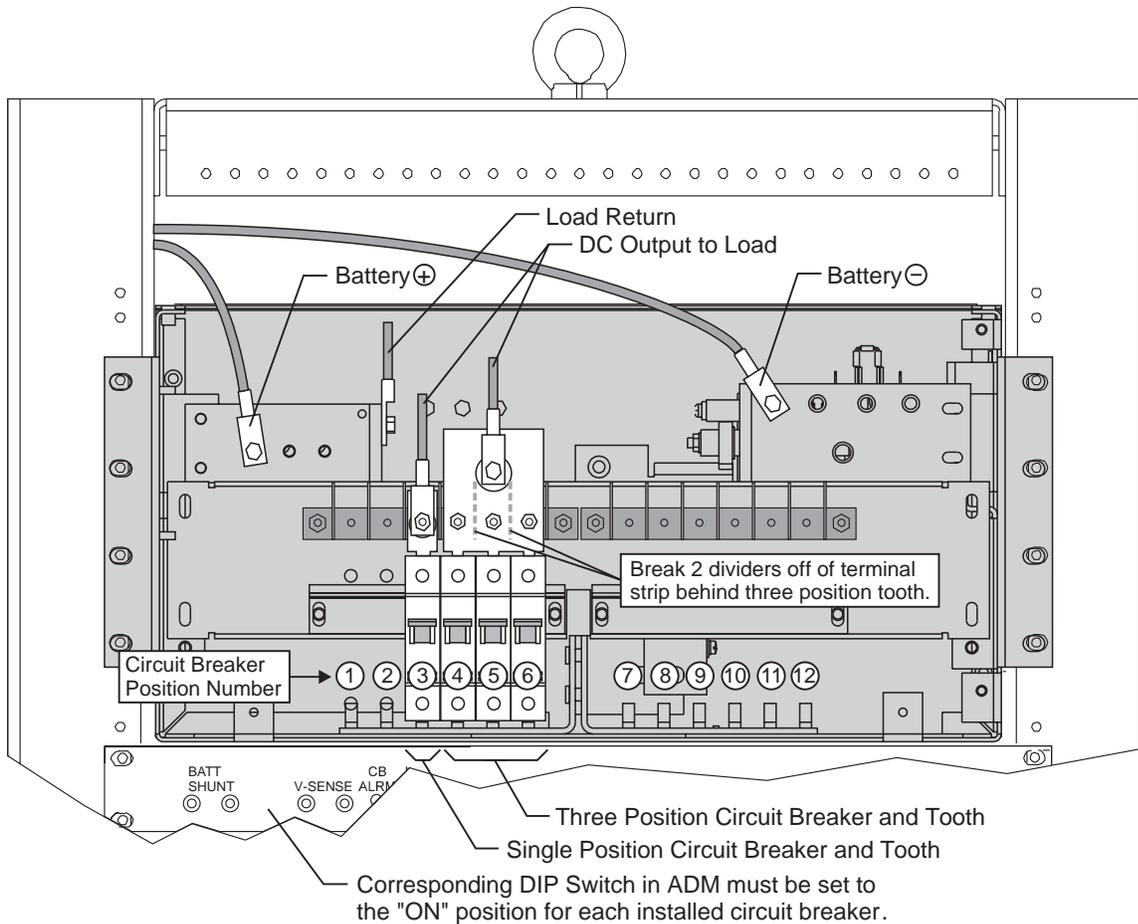
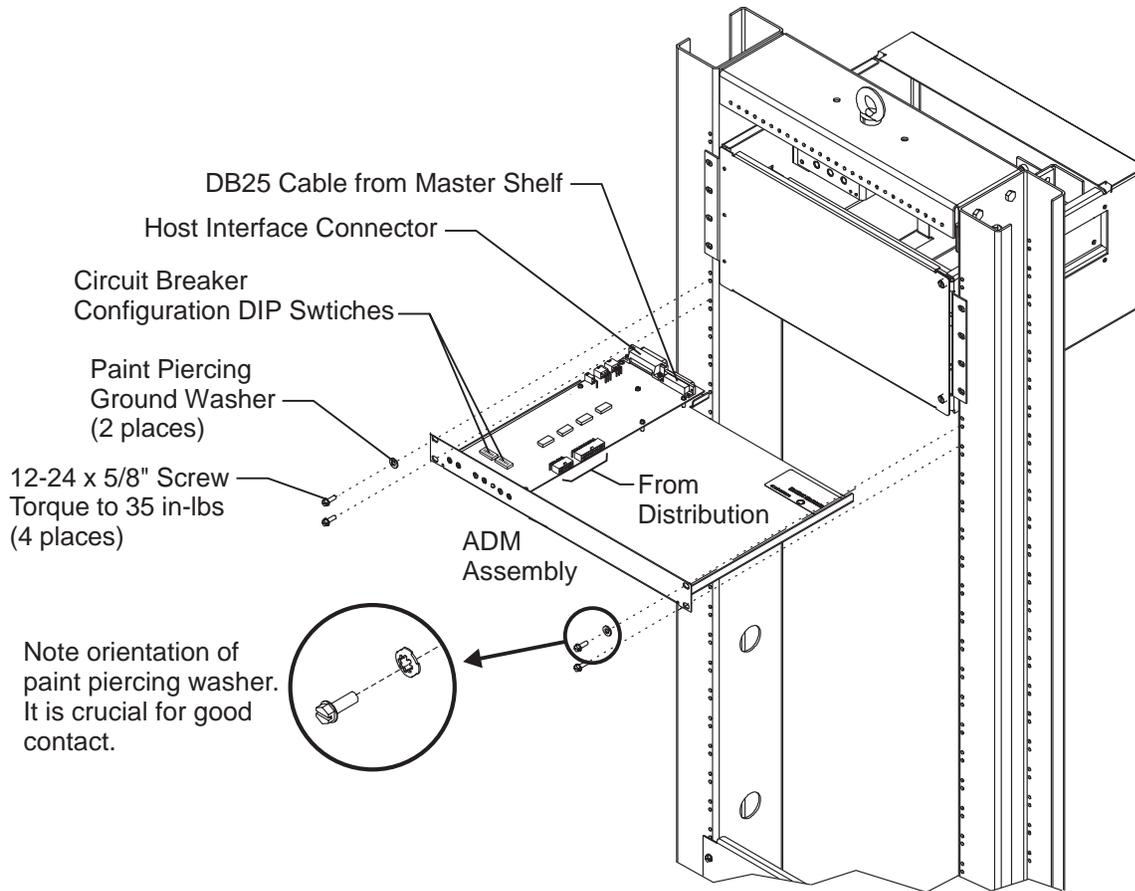

Figure 5-5: Front view of distribution assembly
Figure 5-15: Circuit board configuration DIP switches
9. Connect the lugs of the battery connection cable assembly (848121406) to the positive and negative terminals of the distribution panel. See Figure 5-5.
Figure 5-5 shows both single and three-position circuit breaker and tooth assemblies and load connection points. Figure 5-15 shows circuit breaker configuration DIP switches on the Alarm Distribution Module. Switches 2 and 3, both six-position DIP switches, are associated with the plant circuit breakers installed
Office alarms may be accessed on the host interface connector, located on the BYS2 circuit pack in the ADM. See Figure 5-15. These alarms are provided on Form-C, or transfer type contacts, allowing the alarms to be provided as normally open or normally closed sets of isolated contacts, rated at 60Vdc and 0.5A maximum. The three connections associated with each alarm are labeled NC, NO, and C. When an alarm occurs or power is removed from the Control Unit, a closure exists between the NC and C contacts and an open exists between the NO and C
Figure 5-5 shows both single and three-position circuit breaker and tooth assemblies and load connection points. Figure 5-15 shows circuit breaker configuration DIP switches. Switches 2 and 3 on the Alarm Distribution Module, both six-position DIP switches, are associated with the plant circuit breakers installed in the distribution assembly. Both the individual switches and the circuit breaker positions are numbered 1 through 12. For each position with an installed circuit breaker, turn the corresponding switch to the On position. For each vacant circuit breaker position, turn the switch to the Off position.